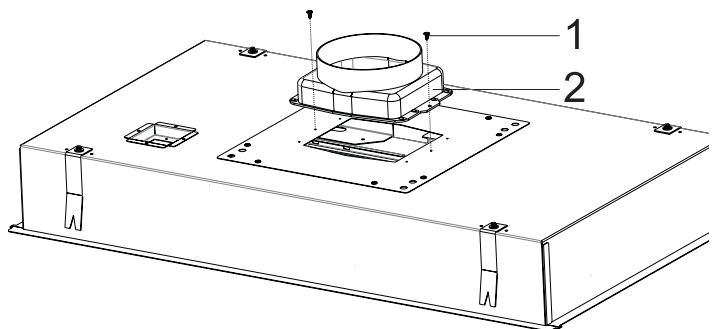

Fig. 14
6. Attach the supplied body cap plate to the body cap plate with 3.5 x 9.5 screws (Fig. 14).